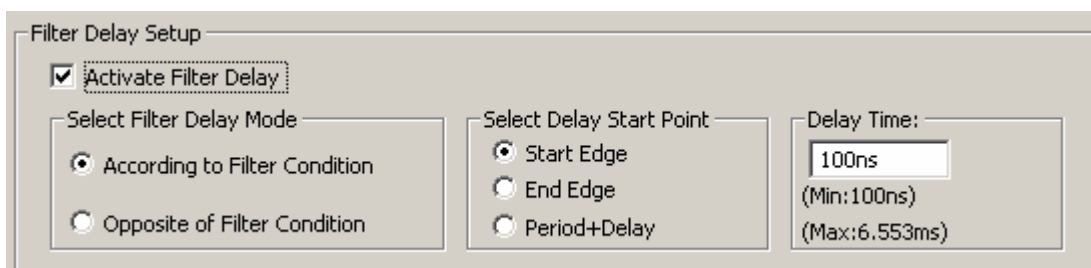

Fig 4-141 – Filter Delay Setup
1. Click on the **Activate Filter Delay** as shown in Fig 4-141.